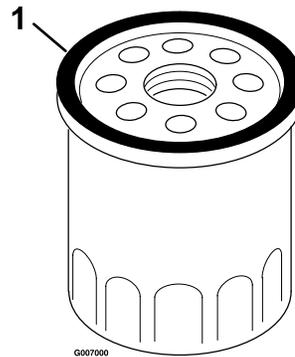

Figure 25
7. Use your finger to coat the gasket on the new filter with clean Exmark 4-Cycle Premium Engine oil (see Figure 25).